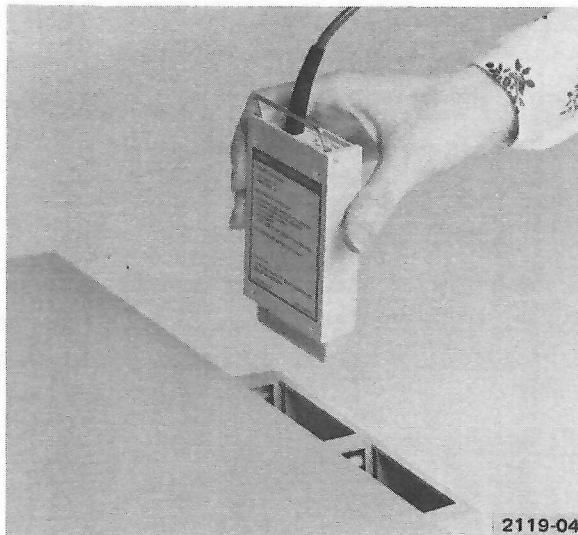

Figure 2-2. Printer Interface Installation.
2. With the power removed from the system, insert the printer interface into a ROM Pack slot as shown in Figure 2-2. Press down and at the same time gently rock the plastic housing from side to side until the ROM Pack edgeboard connector firmly seats into the receptacle connector.